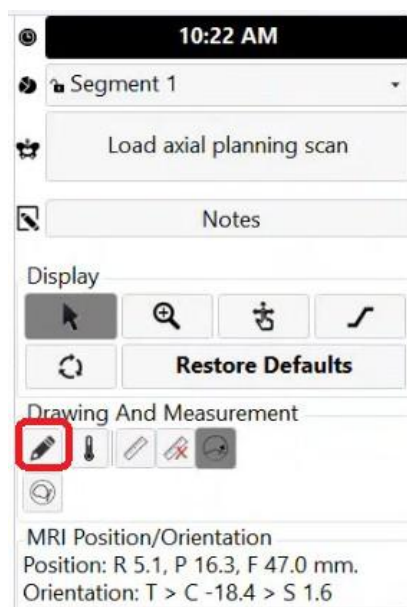

Figure 54: Prostate-boundary 'Drawing' tool on Delivery screen
2. Once delivery is paused, expand the right panel in the Delivery workspace to select the prostate boundary drawing tool (*Figure 54*).